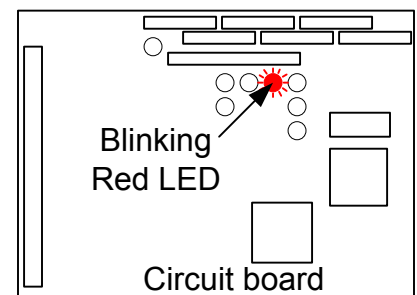

Fig 3.
4. Check for the blinking red LED on the circuit board. (Fig. 3) This indicates the board has power and ground. If it is blinking go to Step 5.